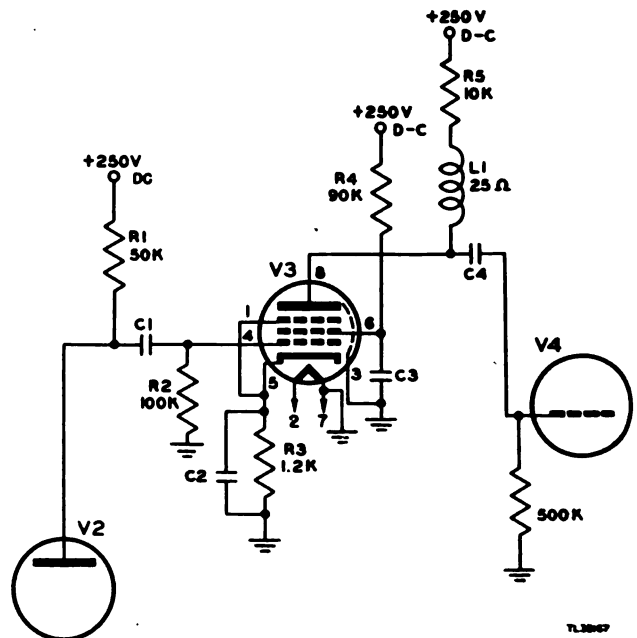

Figure 62. Schematic diagram for voltage analysis.
(3) When a voltmeter is loading a circuit, the effect can always be noted by comparing the voltage readings on two successive ranges. If the voltage readings on the two do not agree, voltmeter loading is excessive. The reading, *not the amount of needle deflection*, on the highest range may be greater than that on the lowest range. If the voltmeter loads the circuit heavily, the pointer deflection may remain nearly the same when the voltmeter is shifted from one range to another.
(4) The voltage and resistance charts used in this manual are based on readings taken with an actual meter. The ohms-per-volt sensitivity of the meter used is given in each chart. When shooting, use a meter having the same sensitivity.
**d. Voltage Analysis.** Figure 62 illustrates a typical amplifier stage. The values of the various parts and the input voltages are labeled. The normal voltages at the socket pins of tube V3 are: